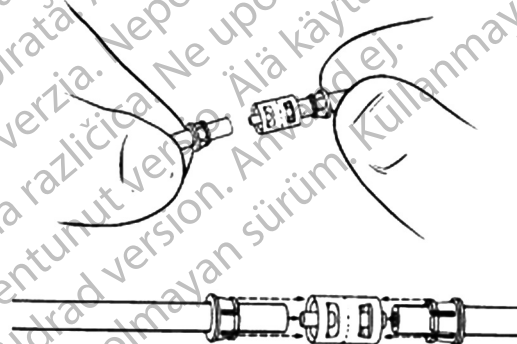

Figure 4-33. Insert Tubing Into Connector
4. Insert tubing end into connector. (Figure 4-33)
5. Insert other tubing end into connector. (Figure 4-33)